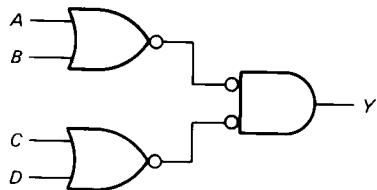

Fig. 3-29
- 3-12. What is the output in Fig. 3-29 if all inputs are low? If all inputs are high?
- 3-13.** How many words are in the truth table of Fig. 3-29. What is the value of Y for each of the following?
- 3-14.** Which $ABCD$ input words does the circuits of Fig. 3-29 recognize?